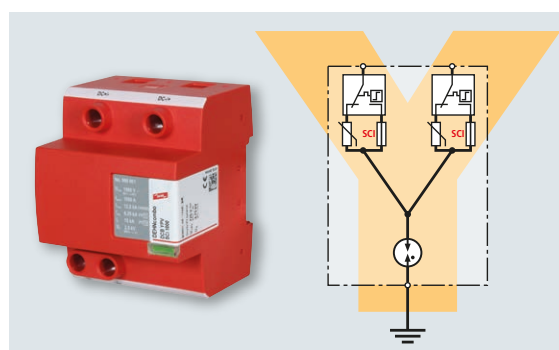

Figure 9 DEHNCombo YPV SCI type 1 + type 2 combined arrester with fault-resistant Y circuit and three-step d.c. switching device
In addition to the tried and tested fault-resistant Y circuit, DEHNCombo YPV SCI ... (FM) also features a three-step d.c. switching device (**Figure 9**). This d.c. switching device consists of a combined disconnection and short-circuiting device with Thermo Dynamic Control. The fuse integrated in the bypass path interrupts the current flow in case of a fault and puts